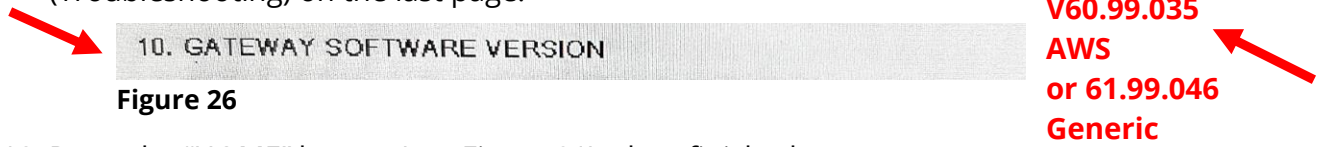

Figure 26
17. The **GATEWAY SOFTWARE VERSION** should be **60.99.035 for AWS or 61.99.046 Generic** (see Figure 26). If not, repeat steps 1-8 of this section. If after two tries of loading the software and the version below is **NOT** displayed, go to STEP 4 (Troubleshooting) on the last page.